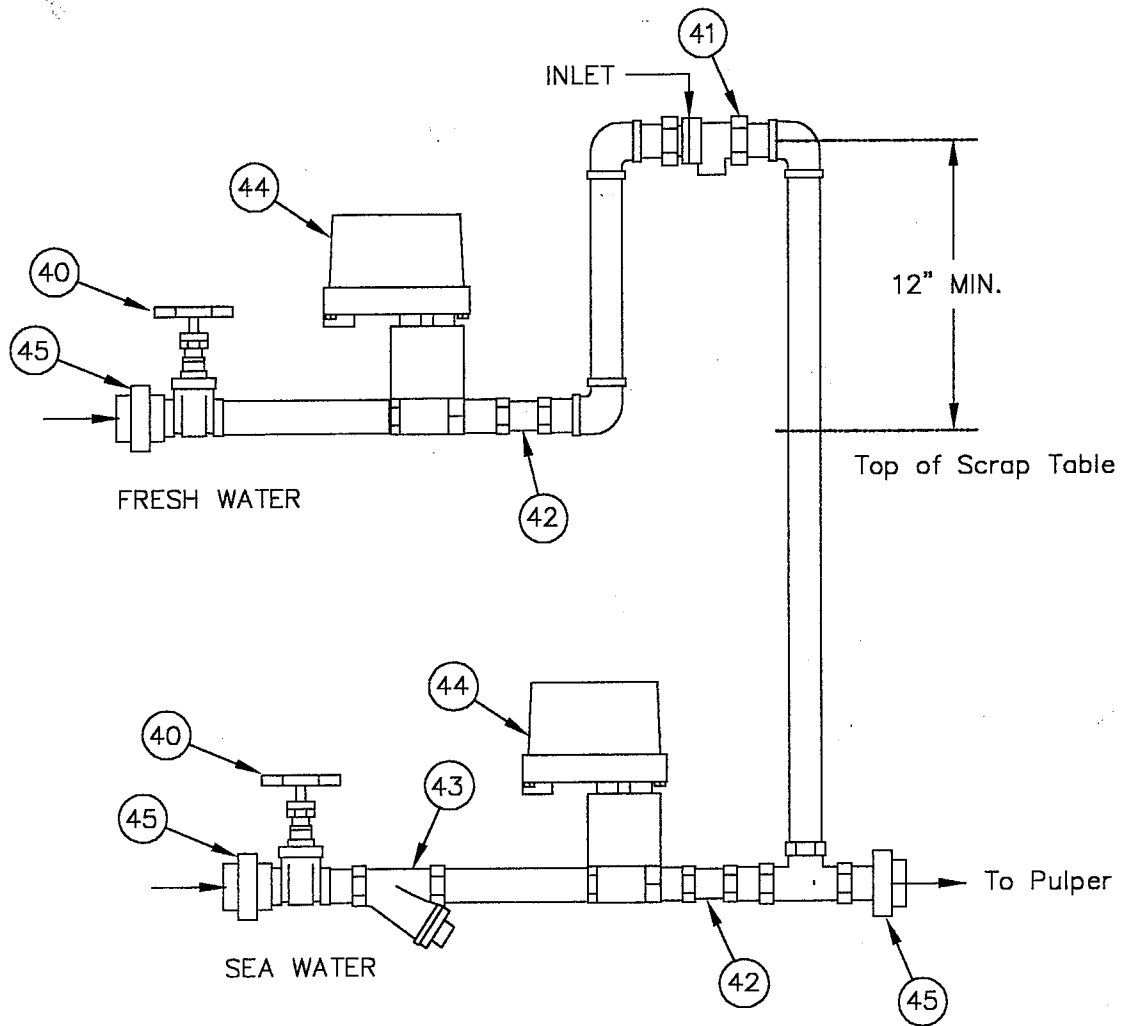

FIGURE 4-2
4.7.2.1 Close manually operated shut-off valves (Fig. 4-2, item 40) in the water inlet lines.